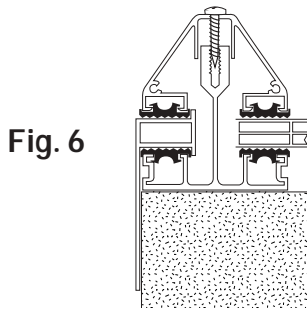

Fig. 6
Step 8: Having already fitted a glazing bar base (Ref. 283) to one end of the structure, then fix a side trim (Ref. 272/275) over the glazing bar base to the side of the fascia or building (Fig.6).